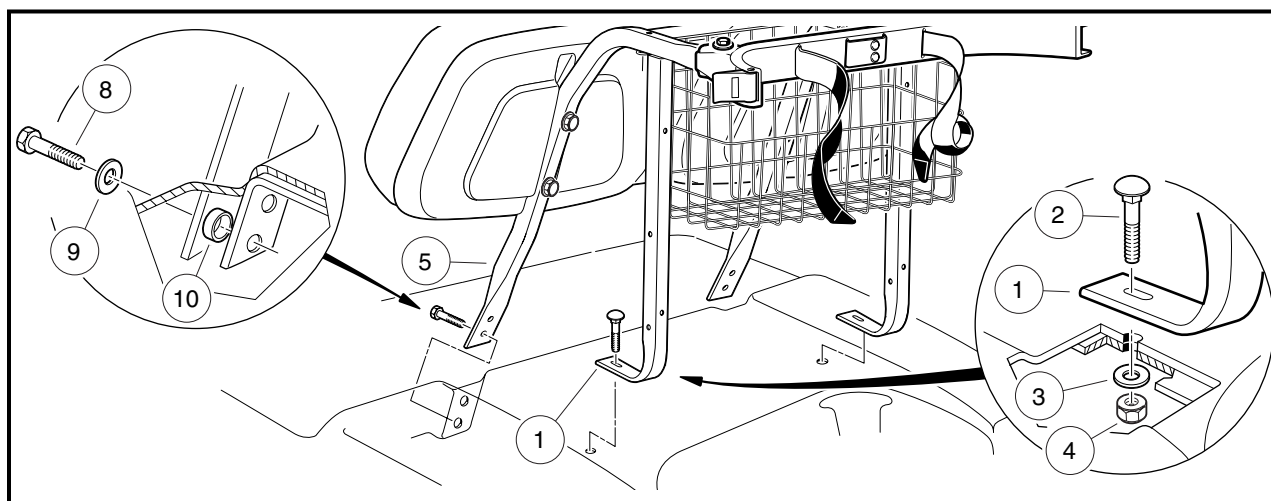

Figure 4-8 Seat Back Support Front and Rear Leg Mounting
10. Remove two carriage bolts (2), nuts (4), and washers (3) attaching the rear legs (1) of the seat back support assembly to the body (**Figure 4-8, Page 4-9**).
11. Remove four screws (8), flat washers (9), and spacers (10), attaching the front legs (5) of the seat back support assembly to the body (**Figure 4-8, Page 4-9**).
12. Lift seat back assembly from vehicle. (**Figure 4-8, Page 4-9**).
- 1.1. Tighten four screws (8), flat washers (9) and spacers (10), attaching the front legs (5) of the seat back support assembly to the body to 20 in-lb (2.3 N·m) (**Figure 4-8, Page 4-9**).
- 1.2. Tighten the two bolts (2), nuts (4) and washers (3), attaching the rear legs (1) of the seat back support assembly to the body to 11 ft-lb (14.9 N·m) (**Figure 4-8, Page 4-9**).